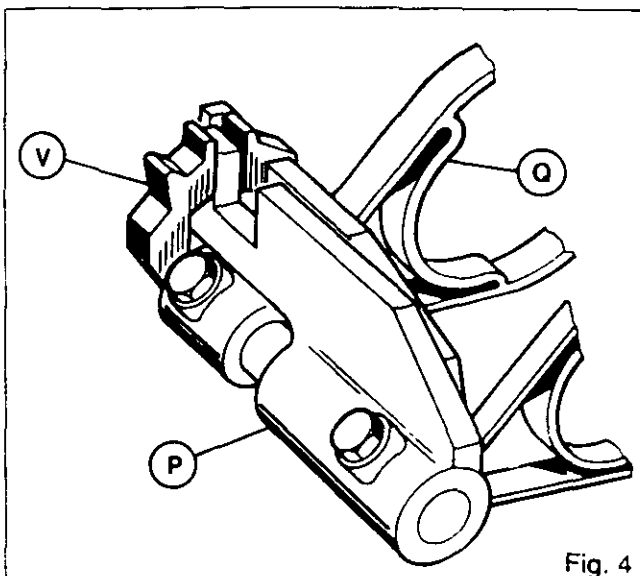

Fig. 4
To select these gears, the gear lever (12) is set to its intermediate position. Arm (36), which is linked to lever (12) engages in the 1st/2nd speed fork (P) and lock (V) prevents any movement by the 3rd/4th speed fork (Q) (Fig. 4). 1st gear is obtained by moving lever (12) back and 2nd by moving it forward.